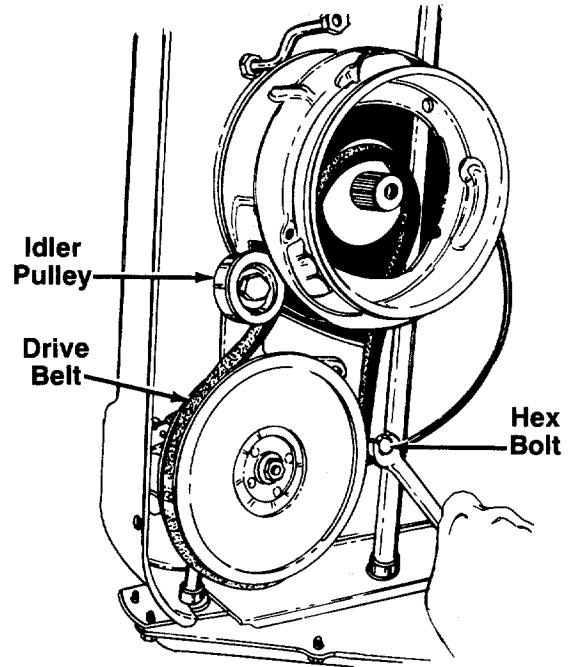

FIGURE 19.
3. Remove the hex bolt (which acts as a belt keeper) shown in figure 19.